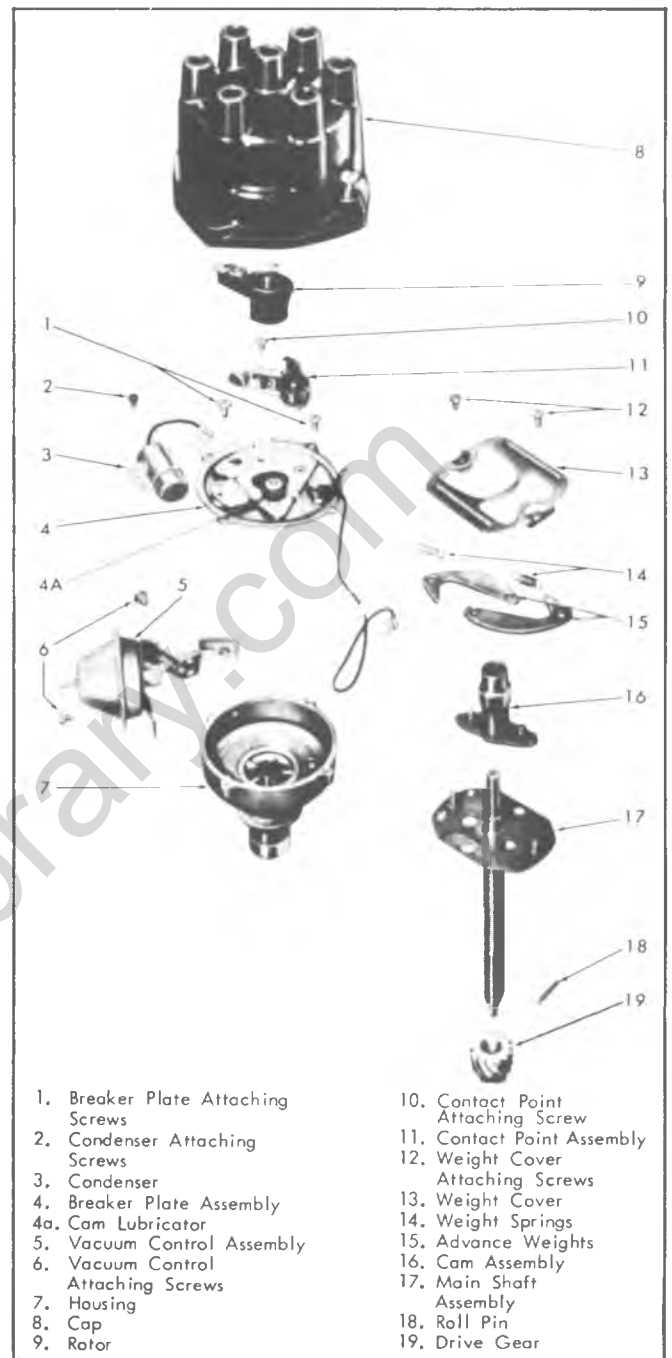

Fig. 19i—L-6 Distributor - Exploded View
#### Six Cylinder Engines (Fig. 19i)
**Assembly****Six Cylinder Engine (Fig. 19i)**